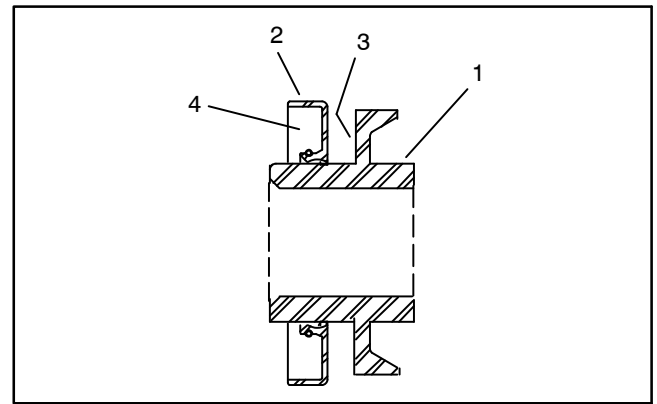

Figure 38
5. Apply a coating of grease to the nut surface to prevent seal damage during seal installation (Fig. 38).
6. Carefully install seals onto bearing lock nuts. Pack the back of the seal 75 to 90% full with #2 grease (Fig. 38).